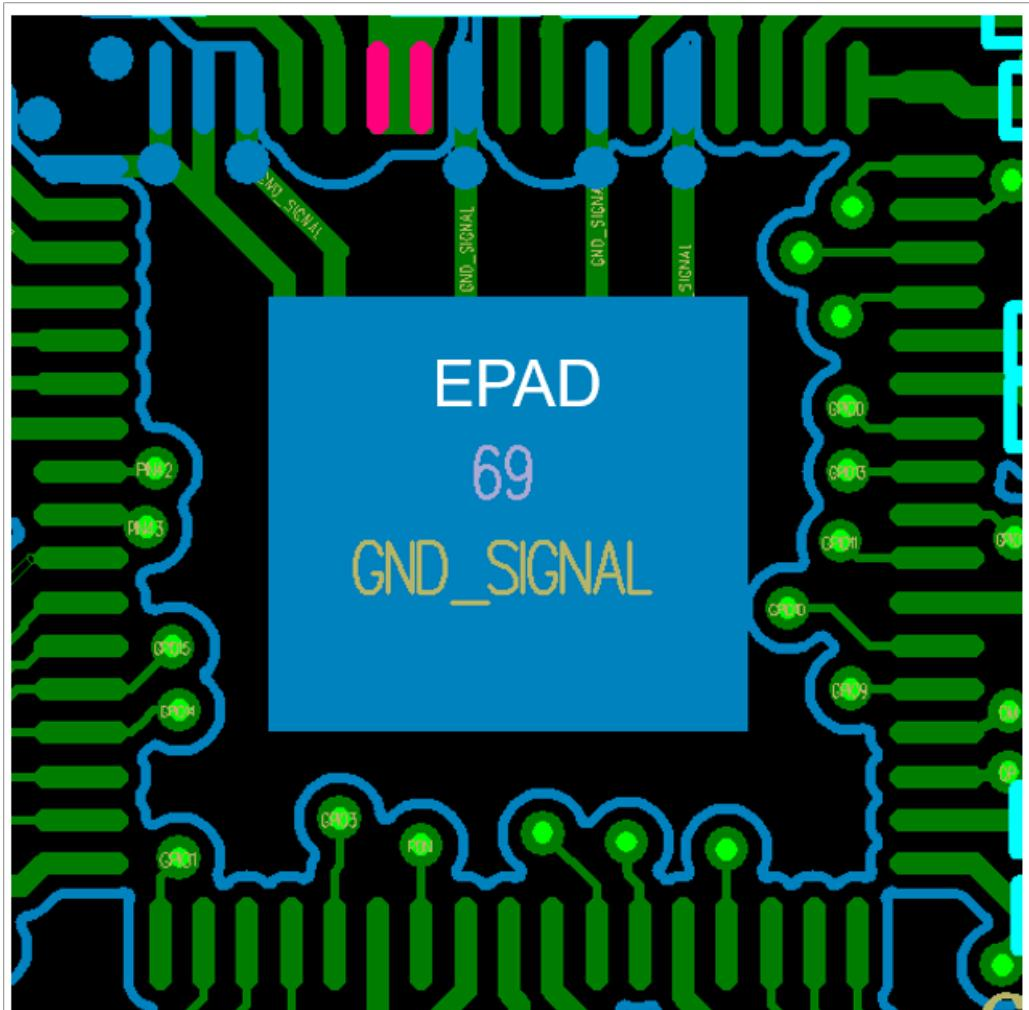

Figure 27. Ground EPAD for QFN package
- For QFN package only, add a ground EPAD under the package for thermal relief as shown in Figure 27.